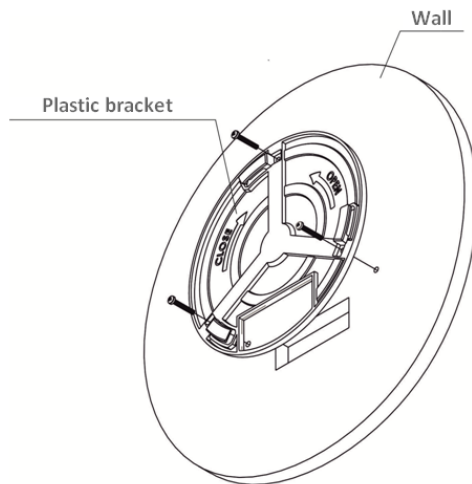

Figure 7 – Attaching the bracket to a wall
- b. When installing the bracket, pass wires through the corresponding channels of the bracket, see figure 7;
1. Turn the device counter-clockwise, figure 7;